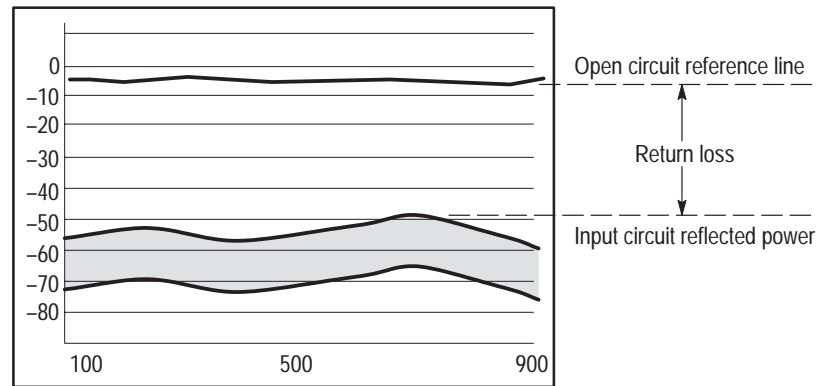

Figure 4-13: Return loss calculation
6. Single sweep the tracking generator again. This time the trace indicates the reflected power from the input circuit of the RFA300 riding on the noise floor as shown in Figure 4-13.
7. Check that the return loss is greater than 25 dB for all frequencies between 174 MHz and 806 MHz. The return loss is the difference between the Open Circuit and Input Circuit reflected traces (see Figure 4-13).